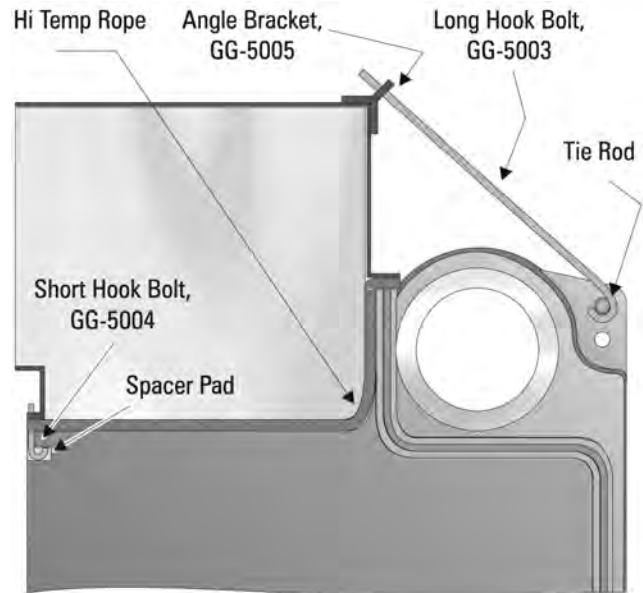

Figure 4.2: Installing Flue Collector Sections
4. Fasten an angle bracket, part number GG-5005, to the top of each Collector section with two #10 x 1/2" (13 mm) long sheet metal screws. See Figure 4.2.
5. Insert a Long Hook Bolt, part number GG-5003, through the angle bracket. Slip the hook end over the tie rod. Apply a 1/4"-20 hex nut on the end of the rod and snug against the bracket. See Figure 4.2. **Do not tighten yet.**
6. Insert a Short Hook Bolt, part number GG-5004, through the flange in the rear of the flue collector. Catch the hook around the spacer pads at the top of the boiler sections. Apply a 1/4"-20 hex nut on the Bolt and snug against the flange. See Figure 4.2. **Do not tighten yet.**